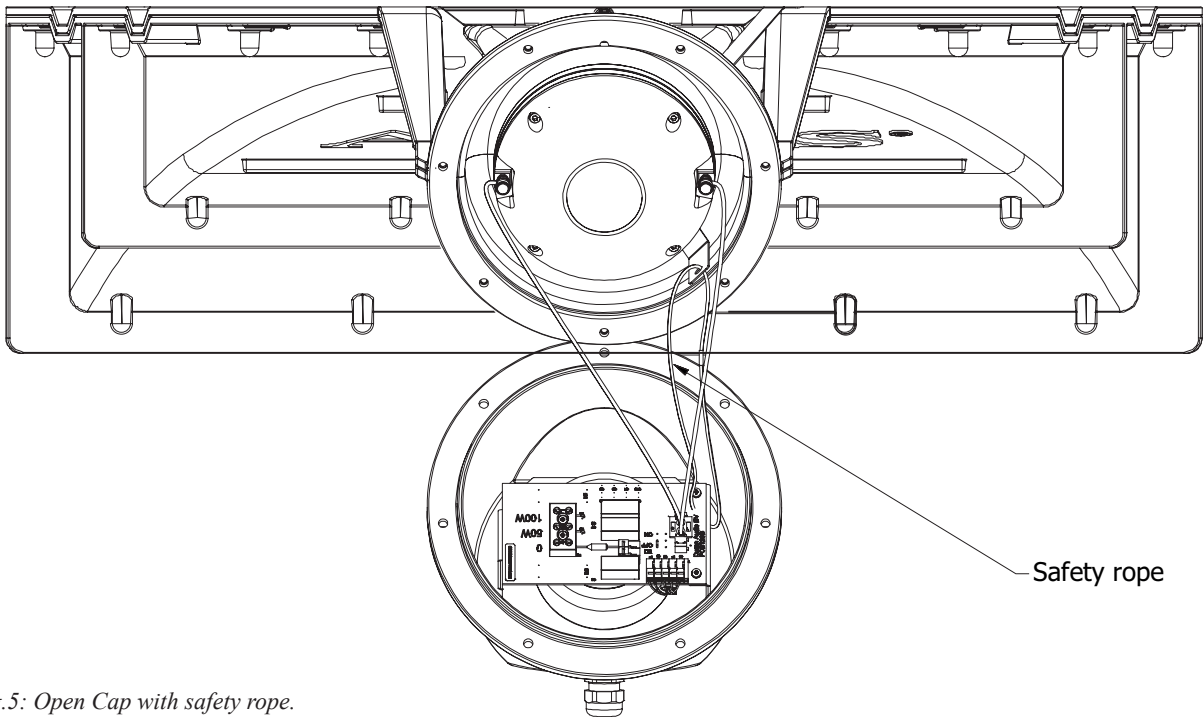

fig.5: Open Cap with safety rope.
1. Remove the rear-cover [17]. This cover, which contains the electronics assembly, is fixed with seven EJOT PT TX20 stainless steel screws [8]. Note that the rear cover is secured by means of an internal Steel Wire Rope [12] (and figure 5) that is connected to a safety bracket [7] of the horn assembly.
6. Re-position the rear cover [17]. Ensure that the gasket [13] is properly positioned and that the rear cover is properly oriented (cable exit at the top). Also ensure that the Steel Wire Rope [12] (and figure 5) cannot make electrical contact with any conductive part.